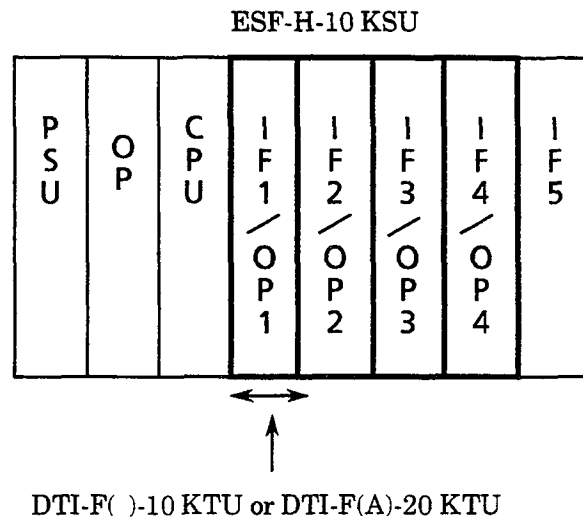

Figure 2-49 Installing the DTI-F( )-10 KTU or DTI-F(A)-20 KTU in the ESF-H-10 KSU
1. Install the DTI-F( )-10 KTU or DTI-F(A)-20 KTU and the CLK-F-21 Unit in the ESF-H-10 KSU. Refer to Figure 2-49 - Installing the DTI-F( )-10 KTU or DTI-F(A)-20 KTU in the ESF-HB-10 KSU.